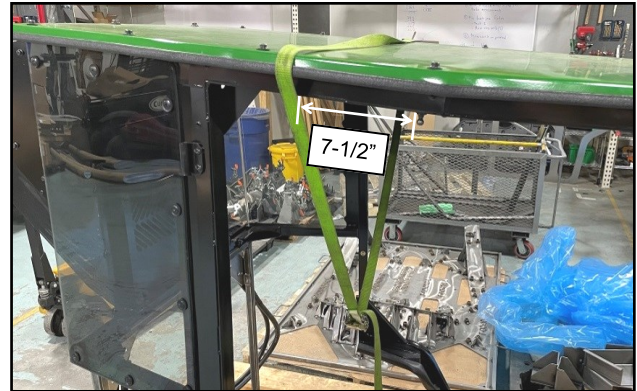

Fig. 2.3 (Position Lifting Strap)
- 2.3 Position a lifting strap so that it sits roughly 7-1/2" behind the gas shock mount as shown in Figure 2.3.